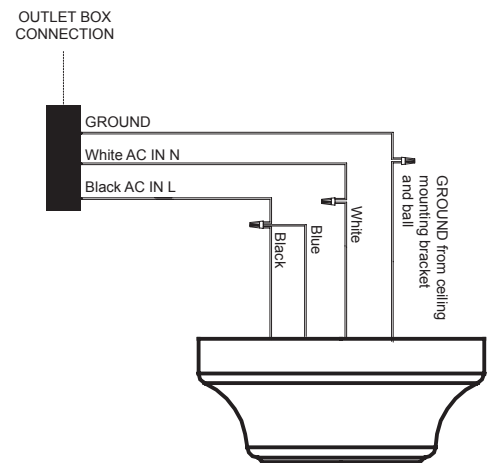

Fig. 10
Step 3. Connect the ground wires of the ceiling mounting bracket and the ball to the ground conductor of the ceiling outlet box (**Fig. 10**).